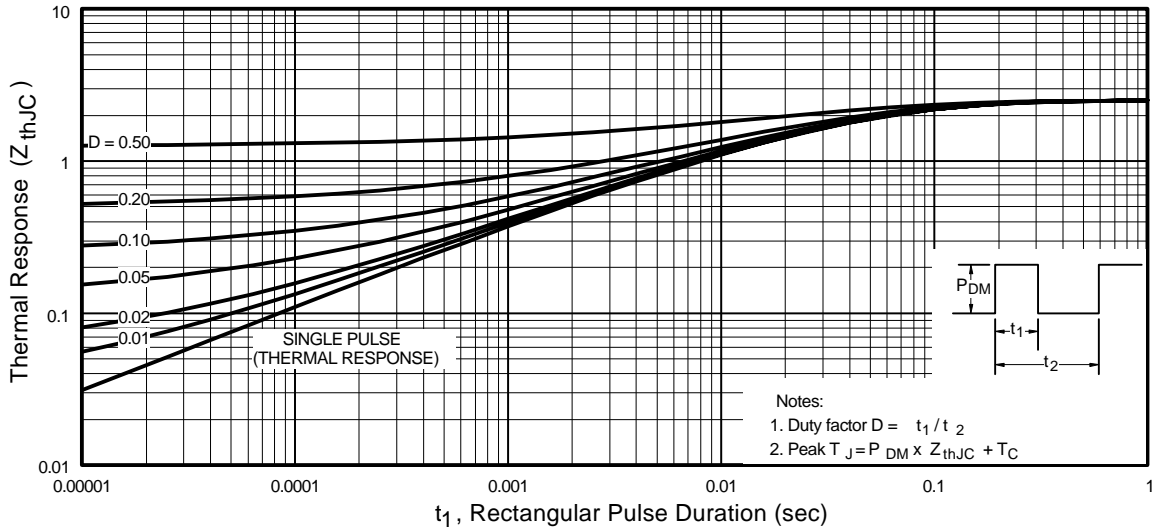

Fig 11. Maximum Effective Transient Thermal Impedance, Junction-to-Case
- ① Repetitive rating; pulse width limited by max. junction temperature. (See fig. 11)
- ② Starting $T_J = 25^\circ\text{C}$, $L = 45\text{mH}$